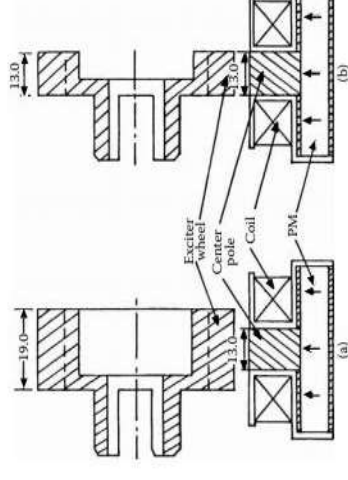

**FIGURE 2.79**
- A typical example of the noise vs. time characteristic is presented in Figure 2.79. In this example, the transmission speed sensor noise signal was recorded at 5000 rpm of engine speed at transmission gear in neutral or park position.